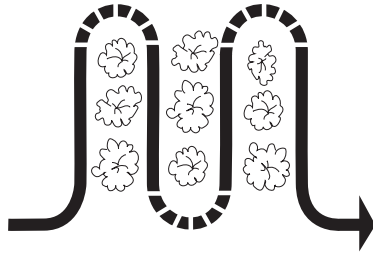

Figure 19
- When cultivating, use very shallow depth settings to prevent injury to plants whose roots often grow close to the surface. If needed, lift up on the handlebars slightly to prevent the tines from digging too deeply. Cultivating on a regular basis not only eliminates weeds, it also loosens and aerates the soil for better moisture absorption and faster plant growth. See Figure 19.